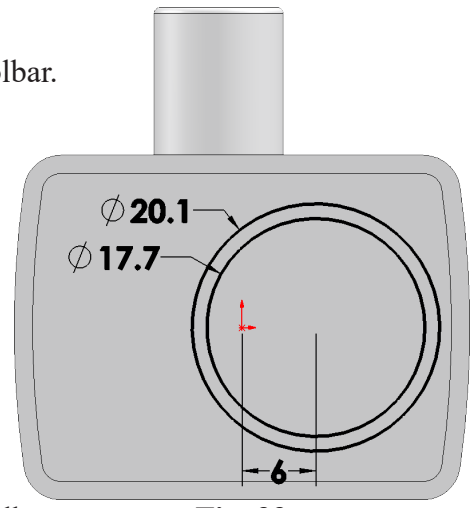

Fig. 33
Step 7. Click **Smart Dimension**  (S) on the Sketch toolbar.
Step 8. Add dimensions, **Fig. 33**.